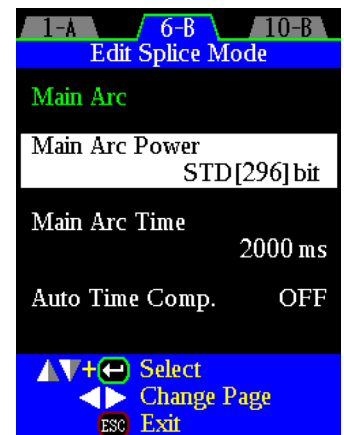

Figure 13 — Splice Defect Sensitivity
- The same applies to the splice defect sensitivity settings on page 10-B (**Figure 13**). Some types of fiber appear to have formed a defect such as a bubble or a hot spot at the joint during the splice – even when they have been spliced correctly and measure little to no loss. This can be normal, depending on the designs of the fibers spliced. In this situation, first verify that it is a good splice, and either reduce the sensitivity to that defect or turn it off altogether.